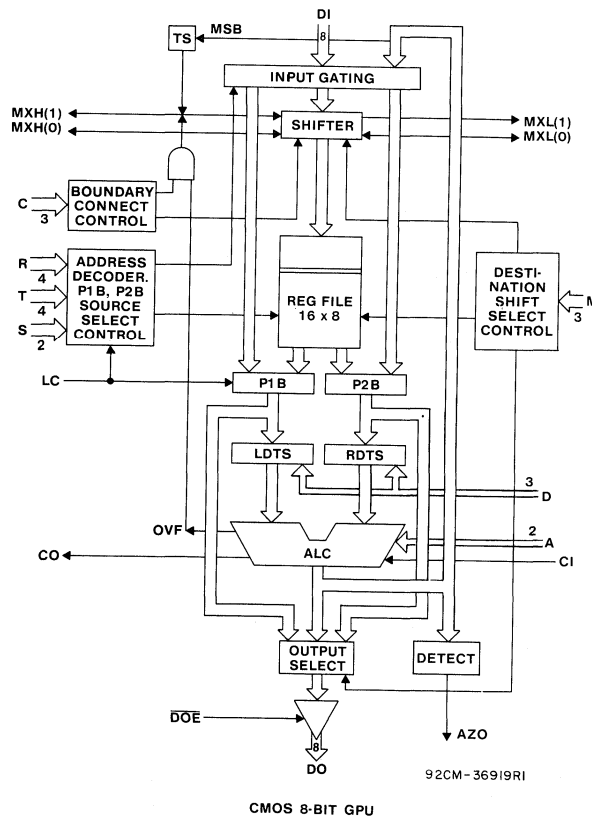

Fig. 1 - Block diagram of the CMOS 8-bit general processor unit, GP001.
The performance of the GP001 is the result of the coordinated exercise of several distinct subfunctions: a two-port register file, a port 1 buffer register, (P1B), a port 2 buffer register (P2B), a left data type selector (LDTS), a right data type selector (RDTS), an arithmetic logic circuit (ALC), a shifter, a boundary and connect control, separate data input and data output paths and a temporary storage (TS) flip-flop. All of these functions are shown in Fig. 1. The GPU is capable of full-cycle-operation up to 10 MHz; that is, it can access two operands from the file, operate on them through the ALC and store the result in the register file. A more detailed description of each of these subfunctions and their operation is presented below.